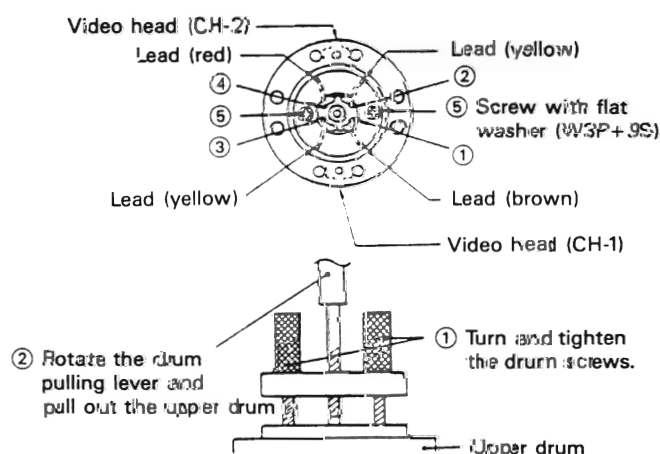

Figure 1-24.
• Replacement (See Fig. 1-24)
1. Unsolder the leads ① to ④ from the video head and remove them.
2. Remove the two screws ⑤ (brass screws with washers (W3P+9S)) using a phillips screwdriver.
3. Withdraw the upper drum by pulling it up with the upper drum replacement jig. (Refer to Fig. 1-24).
1. Set the new drum for replacement, as shown in Fig. 1-24, and position the leads properly.